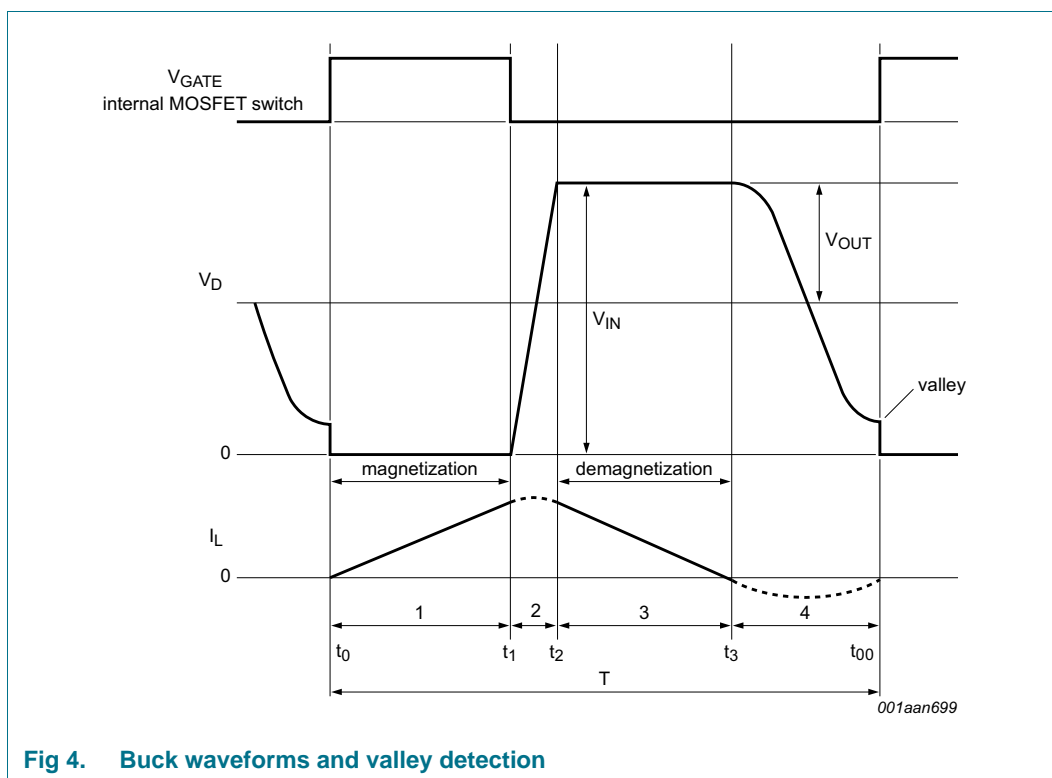

**Fig 3. Basic SSL21081AT application diagram**
- Low component count LED driver solution (see Figure 3):
The converter in the SSL21081AT is a Boundary Conduction Mode (BCM), peak current controlled system. Figure 3 shows the basic application diagram. Figure 4 shows the waveforms. This converter type operates at the boundary between continuous and discontinuous mode. Energy is stored in inductor L each period that the switch is on. The inductor current  $I_L$  is zero when the internal MOSFET switch is switched on. Thereafter, the amplitude of the current build-up in L is proportional to  $V_{IN} - V_{OUT}$  and the time that the internal MOSFET switch is on. When the internal MOSFET switch is switched off, the current continues to flow through the freewheel diode and the output capacitor. The current then falls at a rate proportional to the value of  $V_{OUT}$ . The LED current  $I_{LED}$  is almost equal to half the peak switch current. As soon as the inductor current  $I_L$  is zero, a new cycle is started.